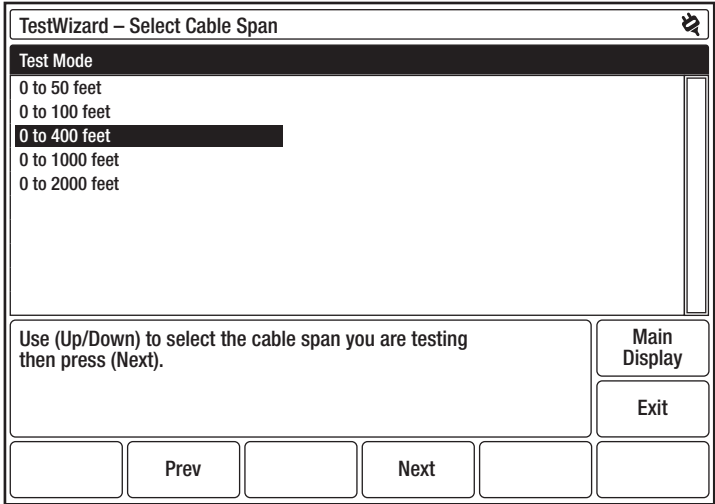

Figure 4-2: TestWizard – Choose Cable Span
3. After selecting your cable type, press **Next** to display the TestWizard – Choose Cable Span menu (Figure 4-2).